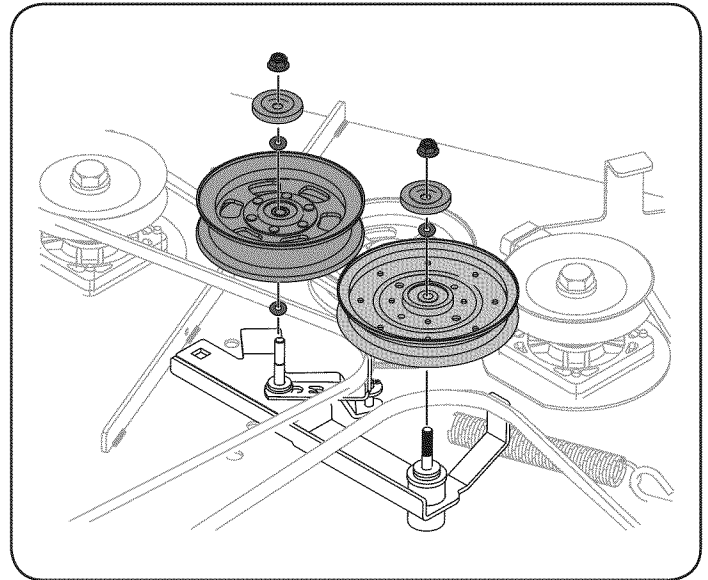

Figure 38
3. Remove the two idler pulleys by removing the hex screws, washers and flange lock nuts that secure them to the deck and the idler arm. See Figure 38. Do not lose any of the hardware when removing the hex screw and flange lock nut.